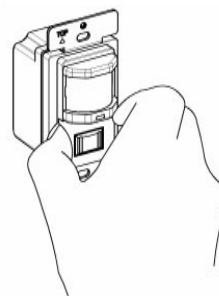

Figure 3
5. Remove the small cover plate. (Illustrated as Figure 3.)
6. Locate the adjustment knobs on the control panel to perform test and adjustment. (Illustrated as Figure 3.)